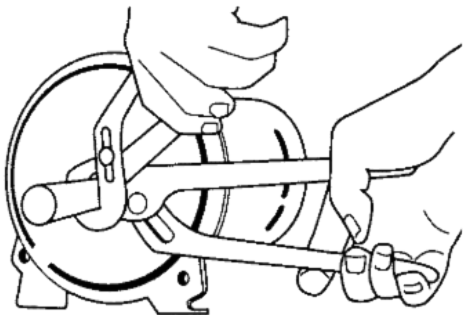

Figure 26: Remove Venturi
4. On 1/2 HP models, unscrew venturi tube from impeller. On 3/4 and 1 HP models, venturi tube is screwed into the pump case (Figure 26).